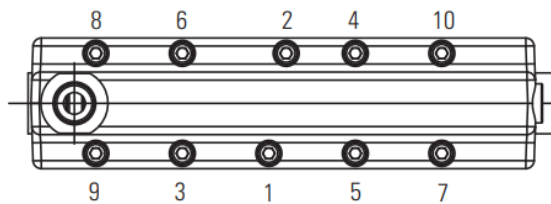

Figure 13
1. Apply 1 drop of Loctite® 290 in all 10 screw holes in the selector plate while ensuring that no air is trapped underneath the droplet. Install the gasket onto the selector plate. Place the spool housing assembly onto the gasket. Install and torque each of the 10 screws starting in the middle working outwards using the sequence in Figure 13. Torque each screw to 70 +/- 8 lbf-in.